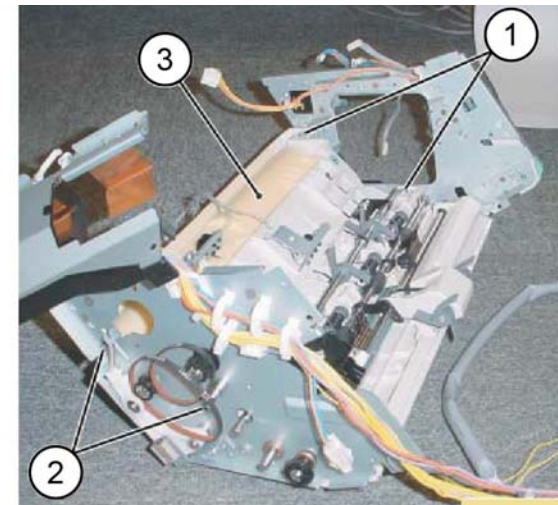

Figure 5 Entrance lower chute assembly removal
7. Remove the entrance lower chute assembly, Figure 5 :
- a. Remove two screws (1).
- b. Loosen two screws (2).
- c. Remove the entrance lower chute assembly (3).